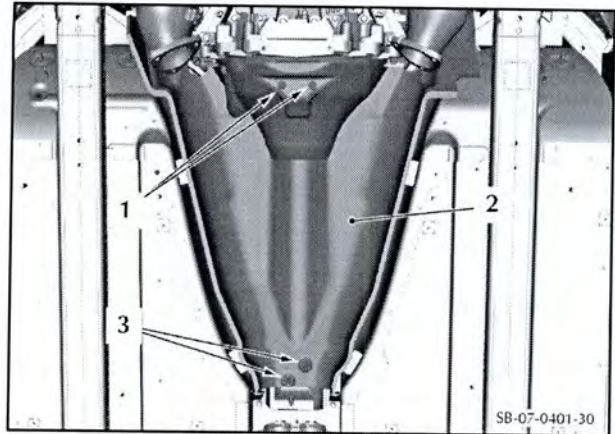

Figure 30
54. Remove the two screws (1) that attach the front of the heat shield (2) for the front floor to the torque tube (refer to Figure 30).
55. Remove the two screws (3) that attach the rear of the heat shield (2) to the torque tube and remove the heat shield (2).